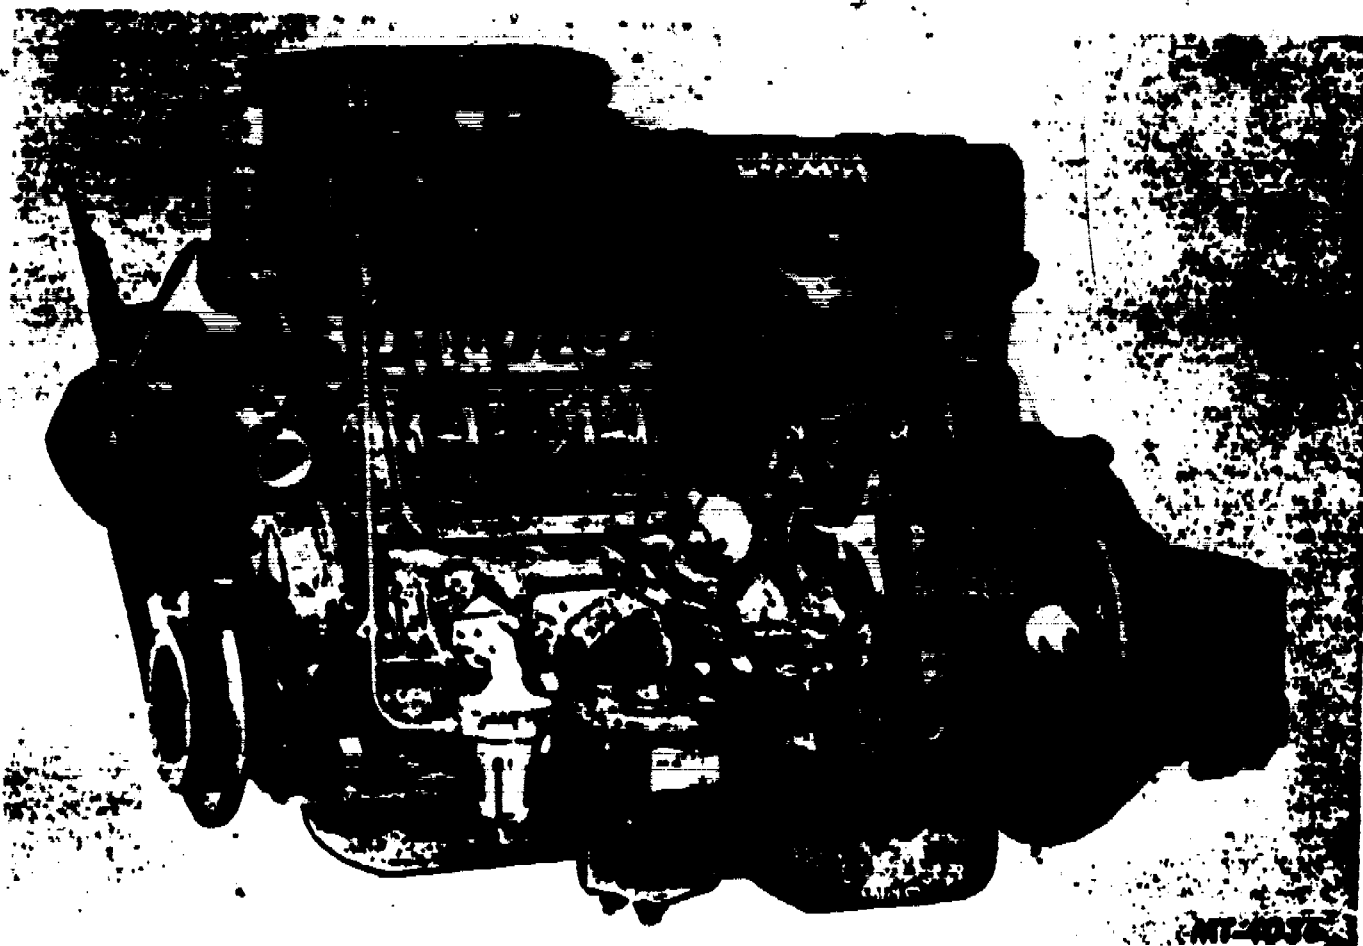

Fig. 1 - BD and BG Series Engine
12. Install lifting fixture on engine. See Fig. 1
17. Support transmission and disconnect transmission from bell housing. On vehicles with automatic transmission: (1) Disconnect converter housing from adapter plate. (2) Disconnect converter from drive plate.